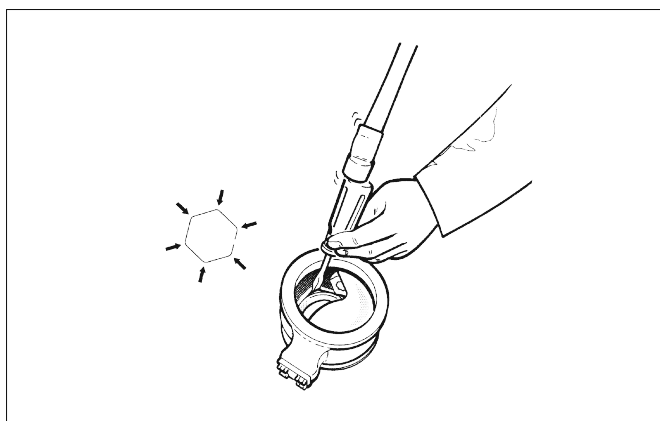
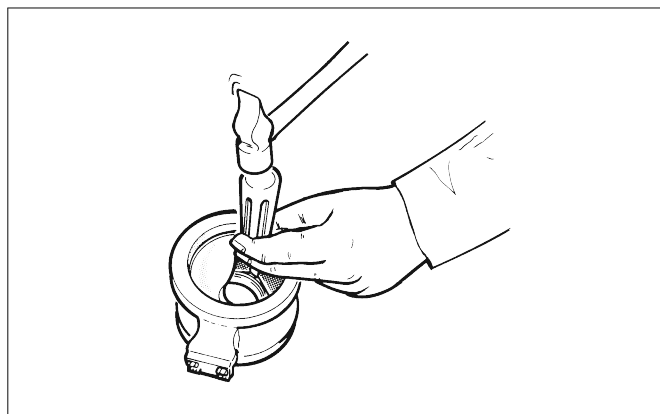

Fig. 20 Knocking the spring into the groove
Fig. 21 Knocking the spring after turning the seat around
- ❑ Place a screwdriver on each visible spring angle one after the other and knock the spring into the groove, see Fig. 20.
- ❑ Turn the segment 180° clockwise and knock the rest of the spring angles into the groove, Fig. 21. A special tool available from the manufacturer may also be used for the work phases in Figs. 20 and 21.